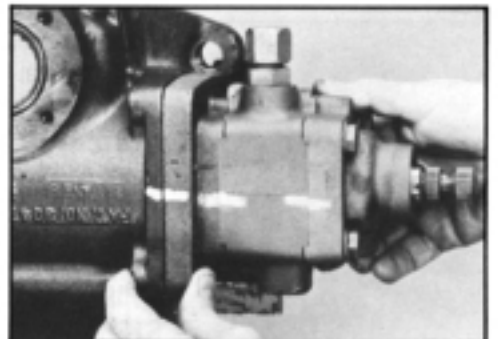

Figure 141
35. Move the adaptor (18) against housing (55) with their bolt holes aligned and their cylinder feed (oil transfer) hole aligned. The poppet recess in the adaptor must align with poppet (31) and seal ring (19) and seal ring (16) must be in place. SEE FIGURE 141.